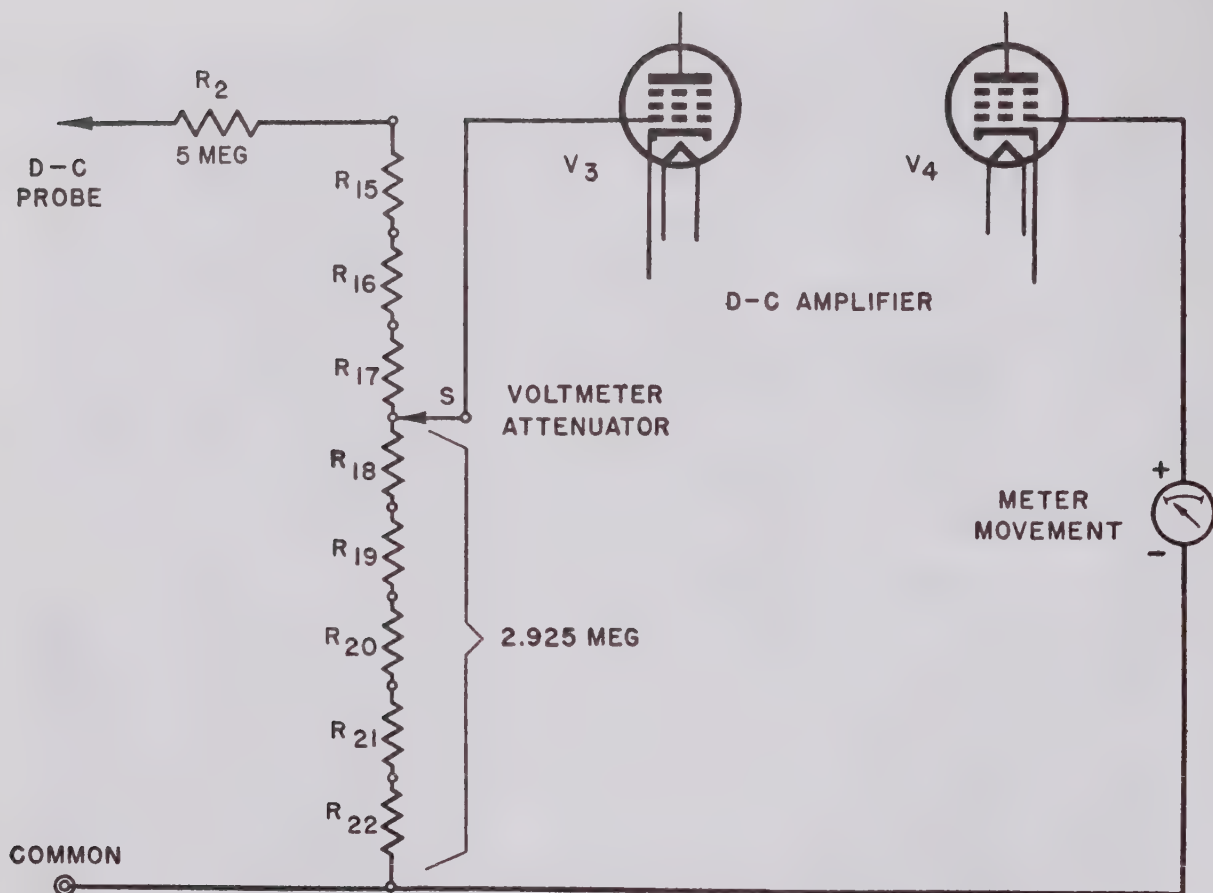

Figure 53. Simplified d-c voltage-measuring circuit of multimeter shown in figure 51.
- (4) For d-c voltage measurements, a circuit similar to the simplified one in figure 53 is used. The d-c probe contains the 5-megohm resistor used to isolate the d-c section of the multimeter and minimize the loading effect of the voltmeter on the circuit under test. The input voltage is taken off the portion of the input attenuator from R_{18} to R_{22} , and is fed to the control grid of V_3 . The indicating meter reads a voltage that is proportional to the input voltage. The negative terminal of the indicating meter is connected to the common terminal of the multimeter for the \pm d-c and \pm d-c measurements. The positive terminal of the indicating meter is connected to COMMON for $-$ d-c and a-c positions of the function selector switch. Section 4 of the function selector switch in figure 51 applies .5 ma through the indicating meter on the \pm d-c ranges so that the meter reads midscale for 0 volts. Section 3 of S_2 shorts out resistor R_{23} on all ranges except the 1,000-volt setting. The total input resistance for all voltage ranges except the 1,000-volt range is 20 megohms (including the probe resistor). At the 1,000-volt setting the total input resistance is 50 megohms.
- (5) A-c voltage measurements are accomplished by first rectifying the ac and